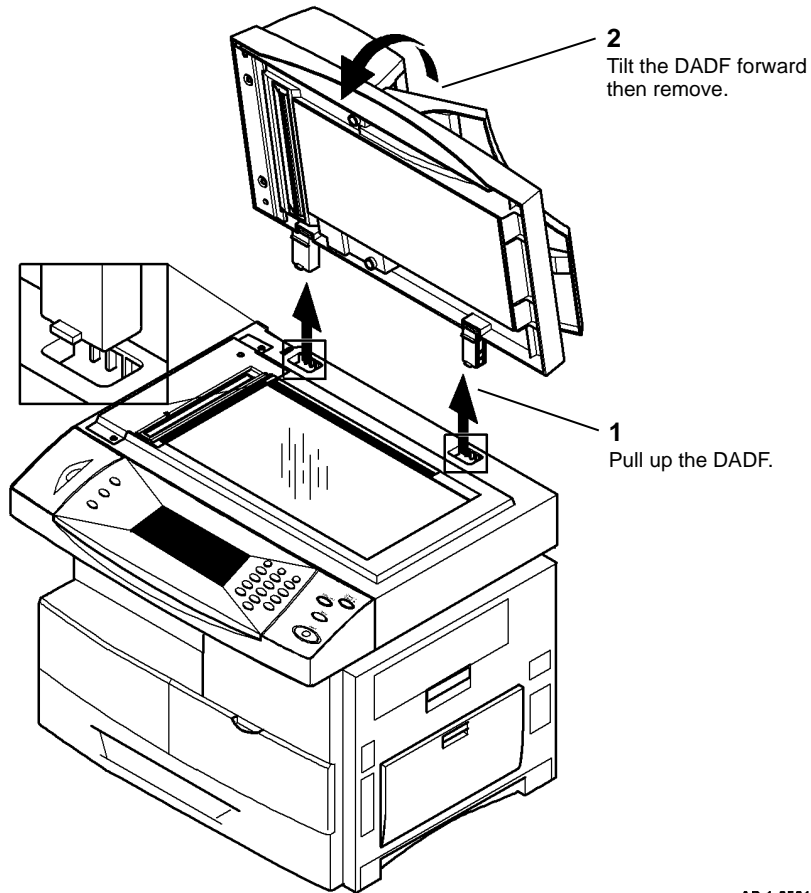

Figure 2 DADF removal
3. Remove the DADF, Figure 2. Place the DADF on a solid flat surface.